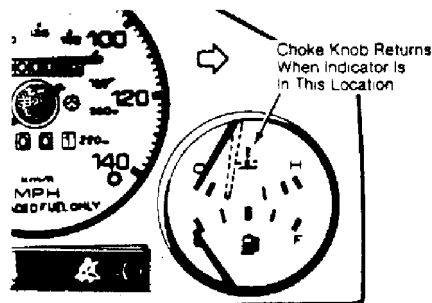

Fig. 1: Engine Temperature Indication for Release of Choke Knob
- 2) Connect tachometer to engine. Start engine and set engine speed at 2000 RPM with choke knob. With engine running, choke knob should automatically return when engine temperature indicator is in position shown in Fig. 1.